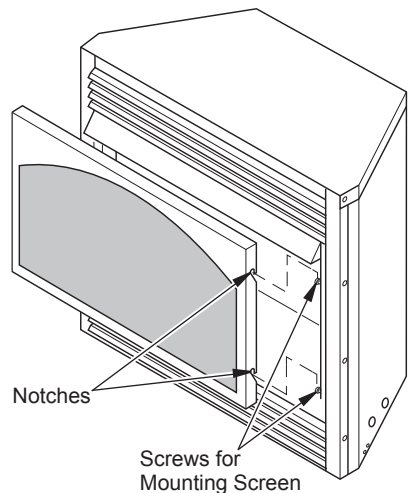

Figure 28 - Installing Fireplace Screen
5. Install fireplace screen by slipping notches of fireplace screen over screws on front of fireplace (see Figure 28).
4. Install fireplace screen by slipping notches of fireplace screen over screws on front of fireplace (see Figure 28, page 17).